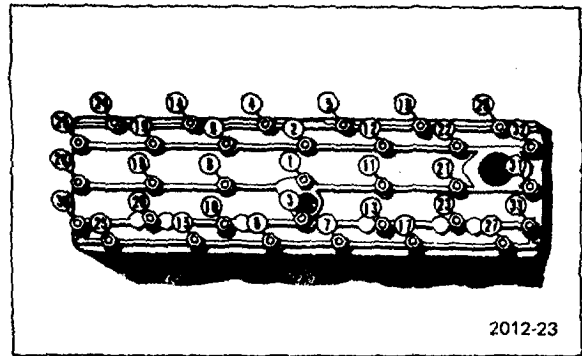

Figure 5-2. Cylinder Head Tightening Sequence
- c. Tighten capscrews following sequence shown in figure 5-2. Torque capscrews to 75 ft-lbs.